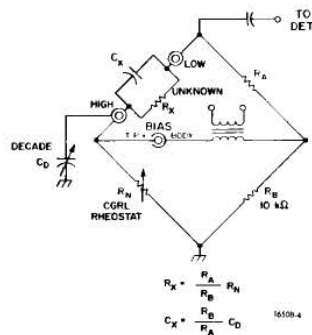
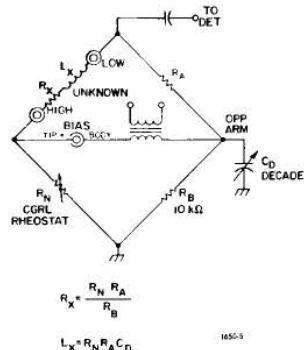

Figure 3-6. Circuit for measuring capacitive resistors.
Figure 3-7. Circuit for measuring inductive resistors.
If the null is not sharp, i.e., sensitive to a small change in the CGRL dial position, the "resistance" is either capacitive or inductive. A capacitive resistance is measured by connecting an external capacitance decade box (CD) from the HIGH UNKNOWN post on the bridge to the case (Figure 3-6). An inductive measurement is made by connecting an external capacitance decade box between the OPP ARM banana jack on the bridge and the case (Figure 3-7).